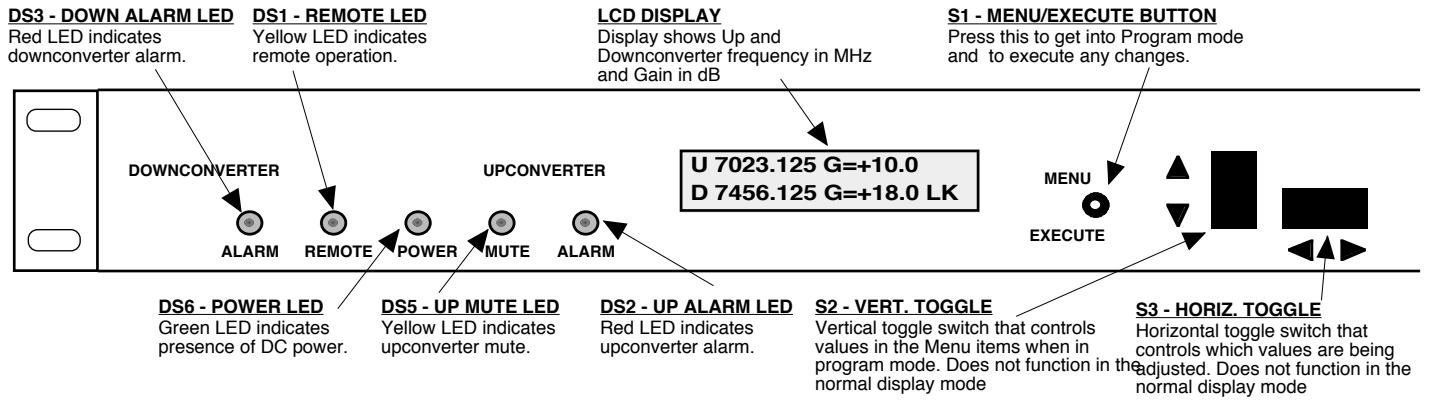

Figure 2.2 Model 3117-7179#-1200 Front Panel Controls and Indicators
Figure 2.2 shows the input and output connectors on the rear panel.
- 5.) Be sure DS6 (green, DC Power) is on and DS2 (red, Alarm) is off (Figure 2.2).
- 5.) Be sure DS6 (green, DC Power) is on and DS3 (red, Alarm) is off (Figure 2.2).
2.5.1 Functions - This section describes operation of the front panel controls. There are three operator switches, the LCD display and alarm indicator LEDs. All functions for the equipment are controlled by these components. The functions are (see Figure 2.2):
Alarm indications appear on the LEDs (see figure 2.2).